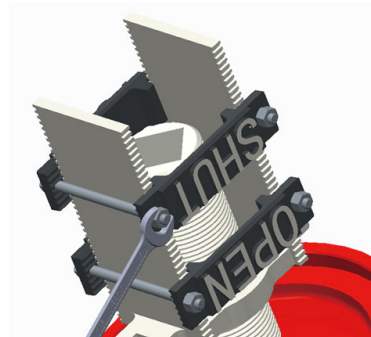

Figure 5
- Loosen the fixing bolts and nuts of each SHUT (Figure 5), but do not remove the nuts.